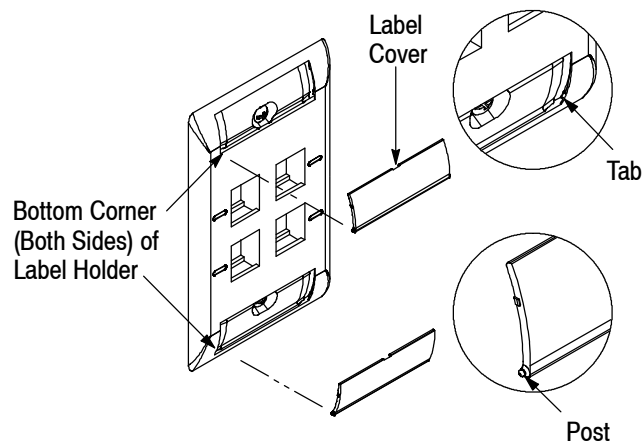

Figure 3
2. Insert one post of the label cover into a bottom corner of the label holder. Ensure that the post is under the tab. Refer to Figure 3.